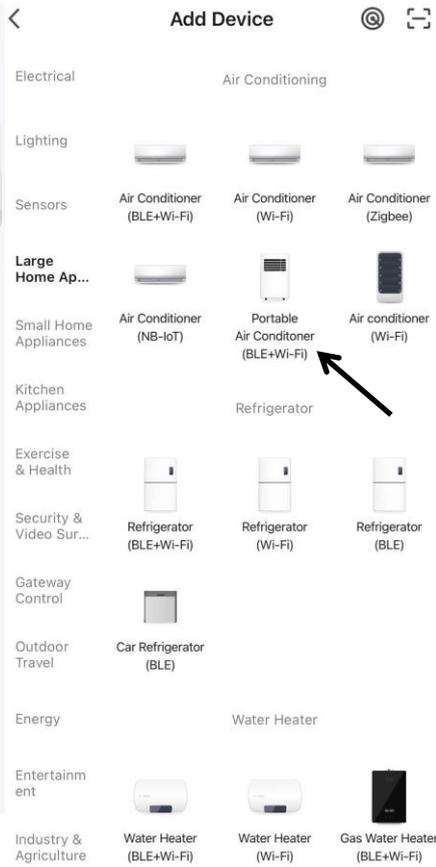

Fig.2
3. Find "Large home appliances" and tap the icon "Portable Air Conditioner (BLE+Wi-Fi)". (Fig.2)